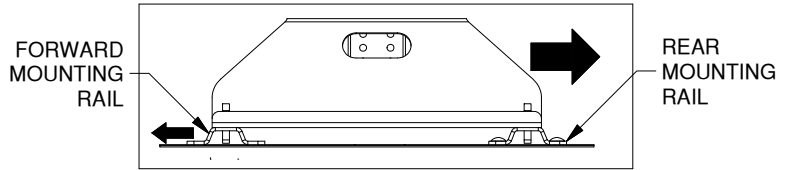

Figure E4: Side view of RV base and mounting rails.
- 3. IMPORTANT:** Before drilling forward mounting holes pull the RV base towards the rear of the truck and push the forward rail towards the cab of the truck to correctly space the mounting rails, see Figure E4.